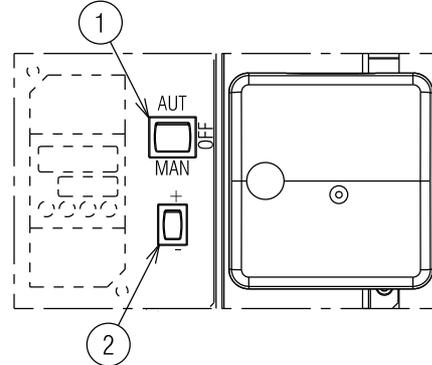

Fig. 29
Put the selector 1)(Fig. 29) in position “MAN”.
- put the switch 1) of Fig. 29 to “OFF” and wait for the control box carries out the switching off phase;
The air is adjusted by varying the angle of cam III)(Fig. 28) and by using the selector 2)(Fig. 29). To adjust the cam of the servomotor, see Fig. 32 A).
In the above instructions we left the burner running at the MIN output. Now press the "increase output" button 2)(Fig. 29 on page 28), and keep it pressed until the servomotor has opened the air damper and the gas butterfly valve.
Press button 2)(Fig. 29 on page 28) "Diminishing output" and keep it pressed until the servomotor regains (Fig. 32 B) the adjustment made in the factory: See Tab. J on page 27 and as a consequence adjusting the air damper 5) and the gas butterfly valve 4)(Fig. 31 on page 29).
The regulation of the air is carried out using the angle of the cam III) of the servomotor (Fig. 28 on page 27) and by using the selector 2)(Fig. 29 on page 28). To adjust the cam of the servomotor, see Fig. 32 A).
After adjusting the maximum and minimum output of the burner, carry out air adjustment on higher intermediate positions of the servomotor. The passage from one position to the next one is obtained by pressing the button 2) on the symbol (+) or (-)(Fig. 29 on page 28). For a brief period press the button 2)(Fig. 29 on page 28) "Output increase" so that the servomotor rotates by about 20°, see servomotor graduated index Fig. 32 B) and the air damper graduated index 5)(Fig. 31 on page 29).
Switch off the burner using the switch 1)(Fig. 29), OFF position, release the mechanical cam I)(Fig. 31) to separate the gears of the servomotor, pressing and shifting downwards the button 3)(Fig. 32 D) and check a few times, by rotating the mechanical cam I)(Fig. 31) manually backwards and forwards, that the movement is smooth and without any hindrance.